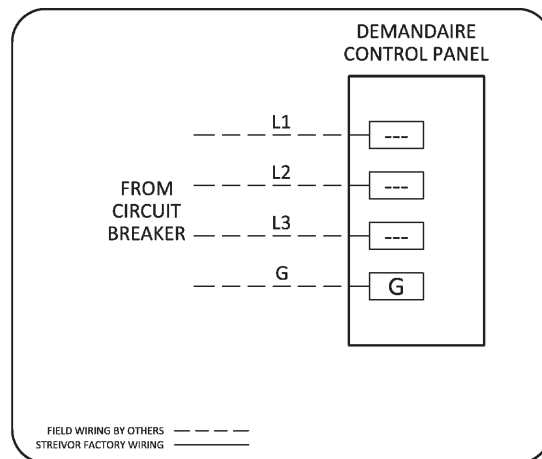

FIGURE 2: Motor Circuit Input Power
- Connect input power to the input power terminal blocks as shown on the DCP drawings (Figure 2).